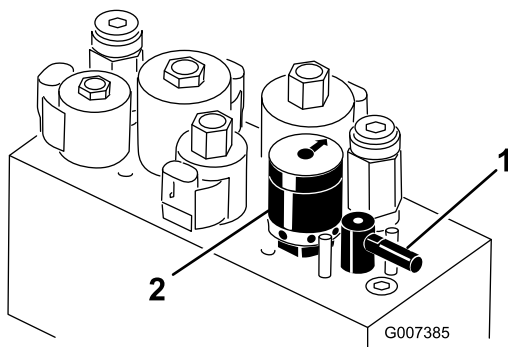

Figure 61
5. Rotate the Backlap Lever to the "R" position (Figure 61).
6. Rotate the Reel Speed Control to setting 1 (Figure 61).